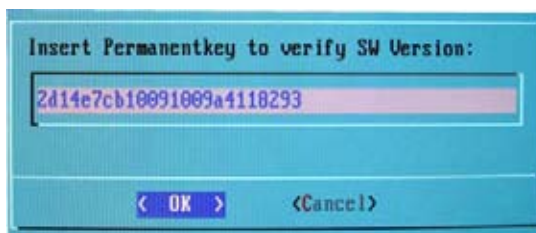

Figure 8-12 Yes - start update procedure
- 11.) To start update procedure click YES (Figure 8-12 below).